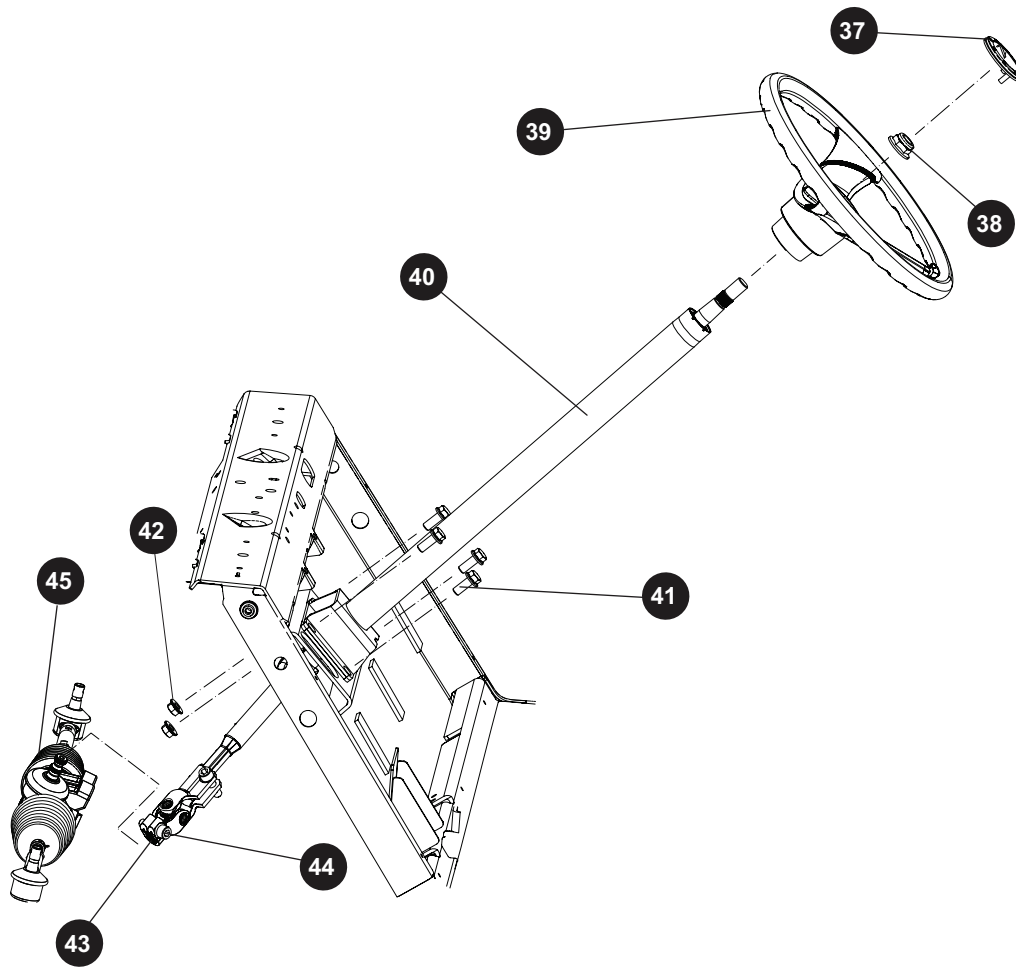

Fig. 11 Steering Column
2. Remove the four bolts (41) and lock nuts (42) that secure the steering column (40) to the frame.
3. Remove the yoke bolts (44), lock washers, and nuts (46) to release the steering yoke (43) from the steering column (40) and steering rack (45) (Ref. Fig. 11).